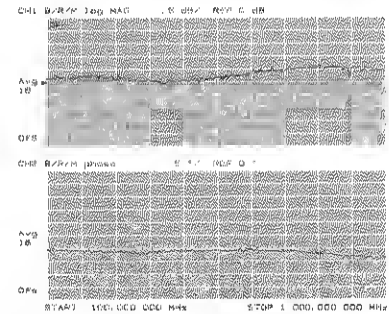

Figure 15. Plot of amplitude and phase tracking between two mixers.
7. Remove mixer B from the test setup and replace it with the mixer you wish to compare it to (in this case mixer C). The resulting display is the amplitude and phase match between the third mixer and the original mixer that it replaced (mixer C / mixer B), see figure 15.